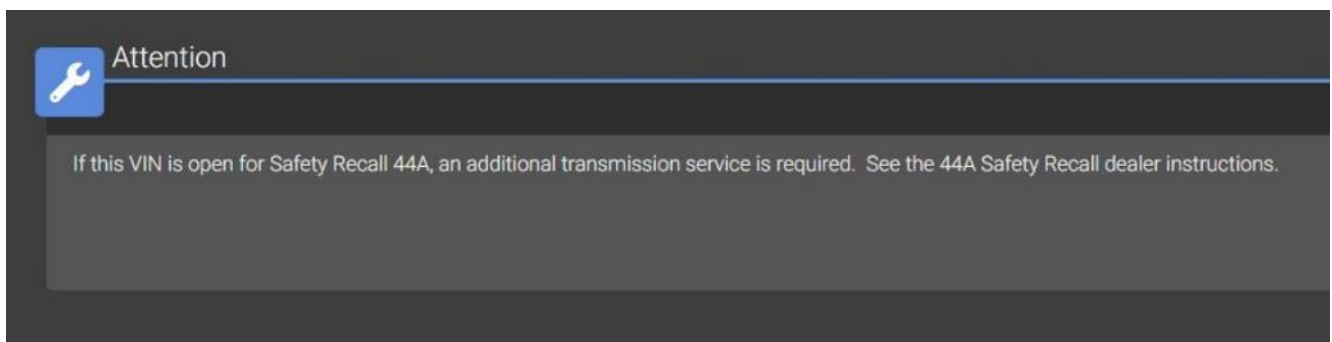

**Figure 1 – wiTECH Popup Message**
8. Take note if a wiTECH message pop-up appear stating **"If this VIN is open for Safety Recall 44A, an additional transmission service is required. See the 44A Safety Recall dealer instructions."** (Figure 1). This message can be ignored at this time but does indicate additional steps may be required later in this procedure.